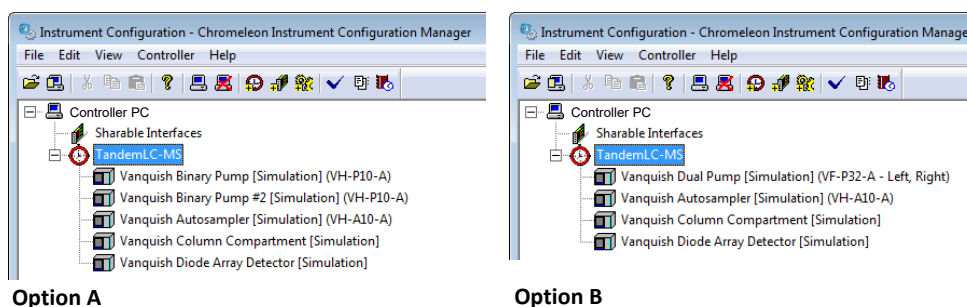

Figure 8: Save configuration, Option A based on two separate pumps and Option B with one Vanquish Dual Pump.
- a. **Chromeleon** in the Chromeleon Console - Instruments Tab. Select the correct instrument and launch the Fluidic Configuration Wizard with the corresponding icon in the toolbar on top (similar to Figure 8).
- b. **Thermo Xcalibur** in the **Direct Control** panel of SII for Xcalibur with the same icon in the toolbar (Figure 8).